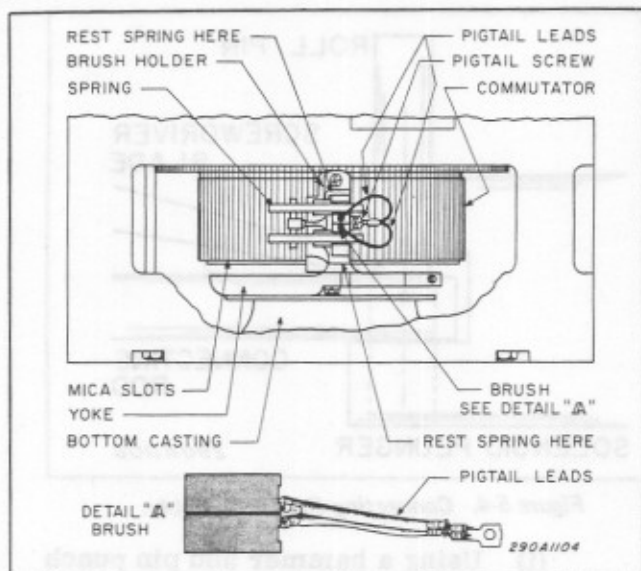

Figure 5-1. Single Phase Motor Brush Replacement.
3. See figure 5-1 while performing steps 3 through 10 of this procedure. Remove the pigtail screw from the brush holder, and lift the pigtail leads away from the holder.
4. Carefully lift the springs away from the two-segment brush and allow each spring to rest on the brush holder next to the brushes, as indicated in figure 5-1.
8. Install the replacement brushes in the brush holder making sure that the pigtail leads are next to each other as shown in detail "A" of figure 5-1.